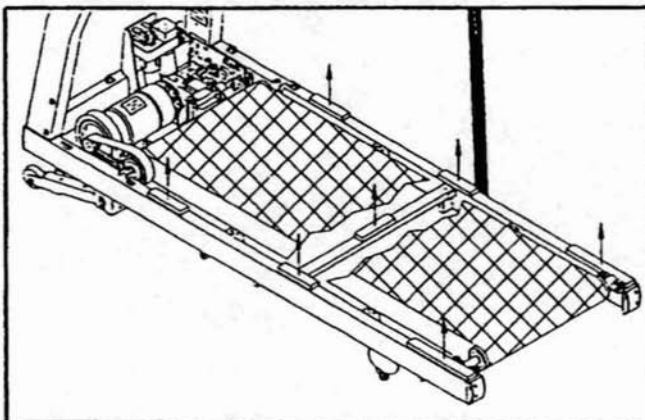
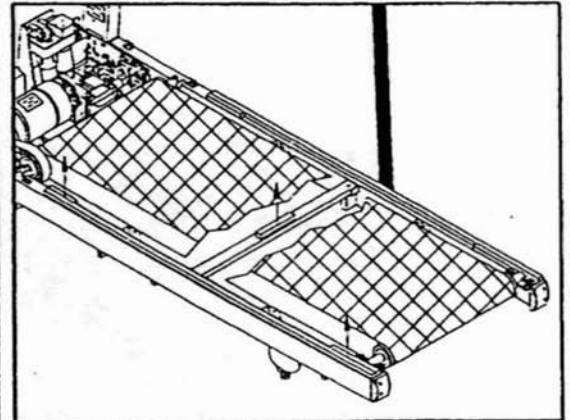

Fig.6
Fig.6A
6. Tear out all cushion pieces. (see Fig.6 or Fig. 6A)